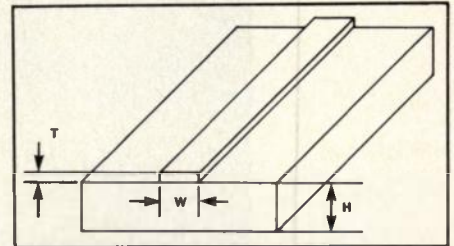

Figure 1. Dimensions of microstrip transmission line.
The cross section of a typical microstrip transmission line together with applicable dimensions is shown in Figure 1. The analysis of wave propagation on this structure is not as simple as for coaxial cables or open-wire transmission lines. The microstrip transmission line is dispersive and cannot be described by a simple TEM mode. However, because of its practical importance, the microstrip transmission line has been extensively analyzed. Initial work was done by Wheeler(1) using conformal analysis to develop a set of descriptive equations. The equations so obtained are not very convenient for general engineering use and, consequently, considerable effort has been devoted to obtaining semi-empirical equations that are sufficiently accurate for routine engineering analysis and design. Several of these semi-empirical equations claim accuracy of 1 percent or better which is good enough for most design applications. Since several sets of equations exist, the choice of which to use is often a matter of preference of the designer. The program pre-